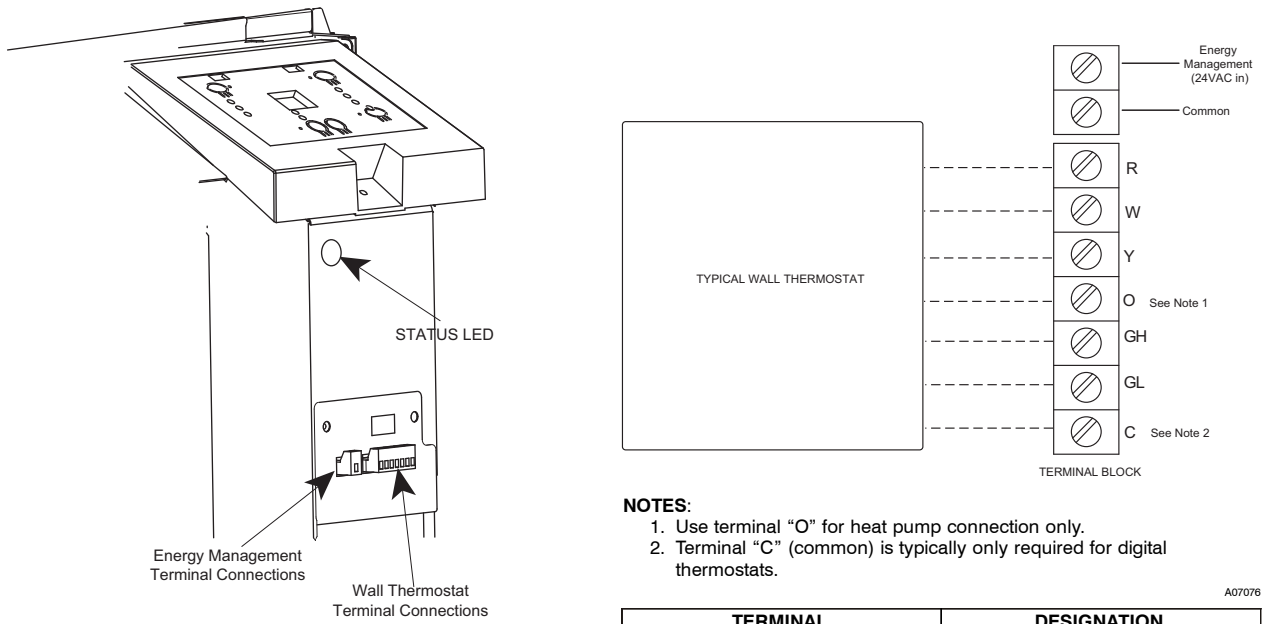

Fig. 24 – Terminal Connector and Status LED Location
6. Replace control panel label with wall thermostat label (included). See Fig. 24.